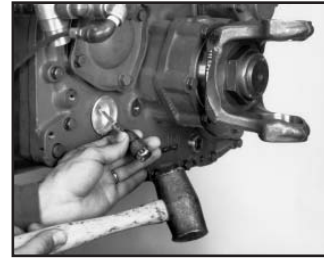

Fig. 1
1. Remove the Welsh Plug from the PTO drive access hole. (Fig. 1).